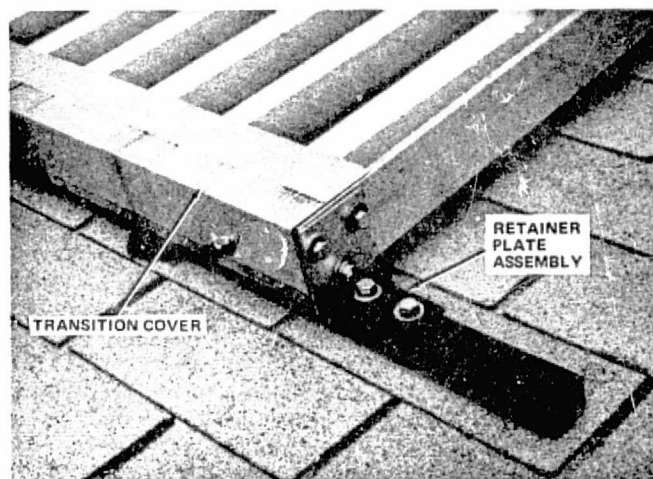

Figure 3-12. Place Collector on UNISTRUT
Retainer plate assemblies (plates, bolts, washers and spring-type nuts), (Figure 3-12), used at the ends of each row should be obtained from the mounting structure manufacturer, or obtained locally by the installing contractor.
3. Slide the collector into place so that the T-brackets grip the UNISTRUTS. Finger tighten the retainer plates to the UNISTRUTS. (Figure 3-12).
3. Slide the collector into place so that the T-brackets grip the UNISTRUT. Place one internal T-bracket (pinned), (Figure 3-10), into each UNISTRUT and insert into the corresponding holes in the collector frame. Assure the position and squareness of the collector and tighten the retainer plates (Figure 3-12) to the UNISTRUT.